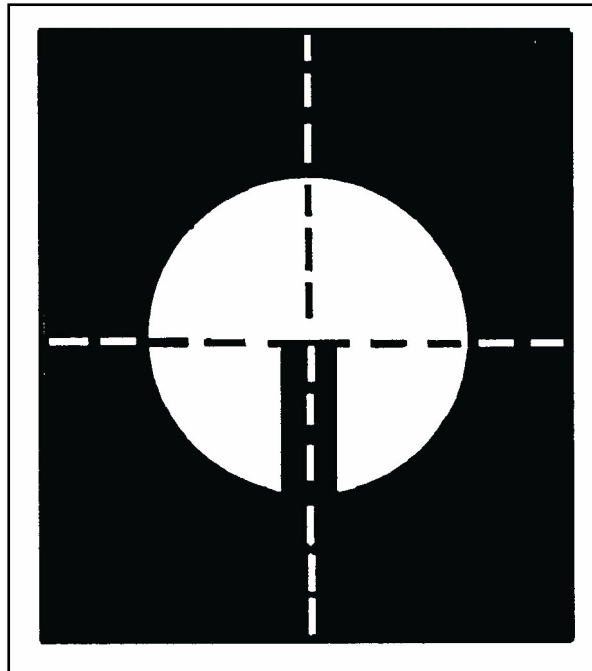

Figure 071-313-3454-6. Correct sight alignment
- b. Sight picture. Place top center of front sight blade at bottom center of intended target (figure 071-313-3454-7).